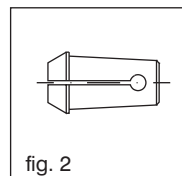
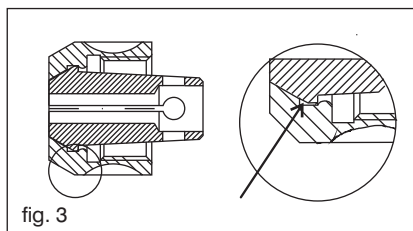

fig. 2
fig. 3
2. Press the collet chuck (fig. 2) into the tension nut (fig. 3) in such a way, that the nose (arrow) locks into the tension nut.